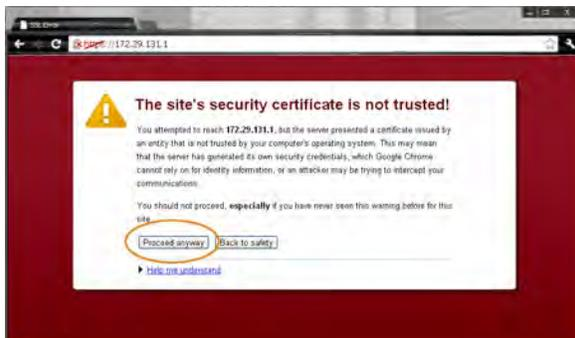
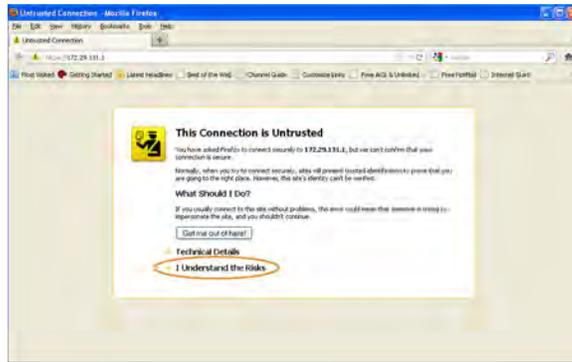

Figure 5 Google® Chrome™ Certificate Warning
Figure 7 Mozilla® Firefox® Certificate Warning
- Step 2. Accept the default security certificate for first-time use, as shown in *Figure 5–Figure 7*.